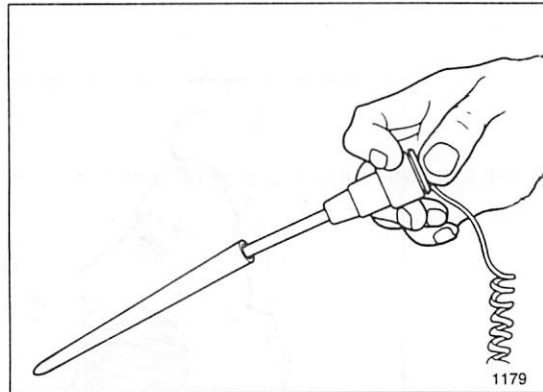

Figure 2-7. Ejecting Probe Cover
- i. Hold the probe as you would a syringe, and press the ejection button at the base of the probe to eject the used probe cover into a waste container. (See figure 2-7.)